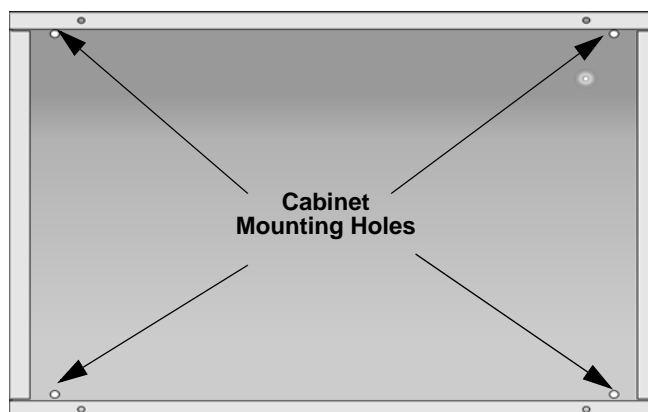

Figure 4.4 RBB Cabinet Mounting Holes
1. Mount the accessory cabinet. See Figure 4.4 for the four cabinet mounting holes.